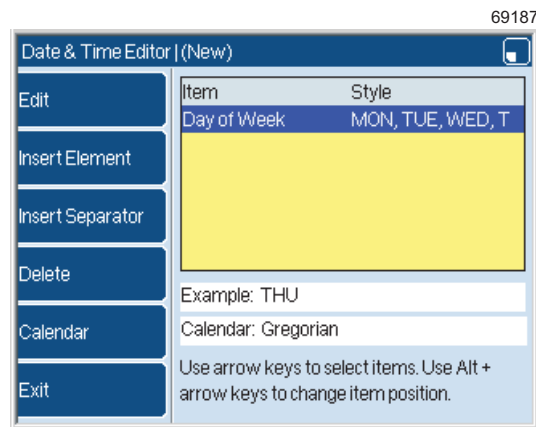

Figure 7. Date & Time Editor page
- 1 In the **Date & Time Editor** page (Figure 7 on page 7), use the arrow keys to highlight an element. Press the **Edit** key to display the **Edit Strings** page.